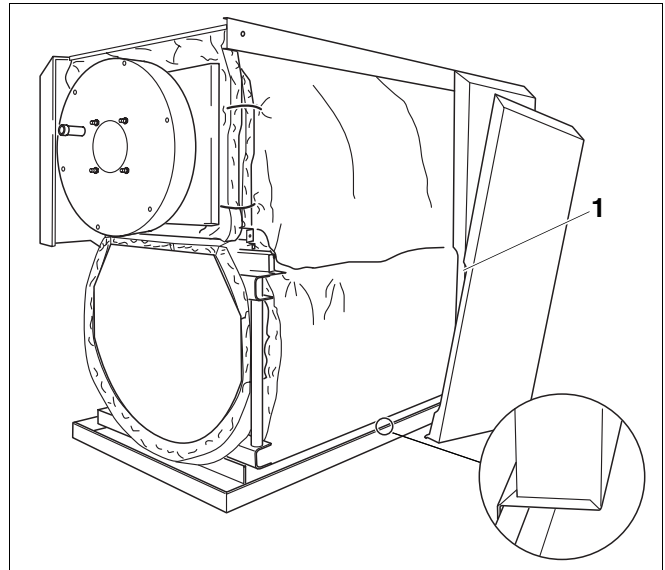

Fig. 14 Hooking in the side walls at the bottom
- Hook the rear and central side walls at the bottom into the edge between the cover and the spacer plate (Fig. 14).
Note the recesses (Fig. 14, **Item. 1**) in the side walls: